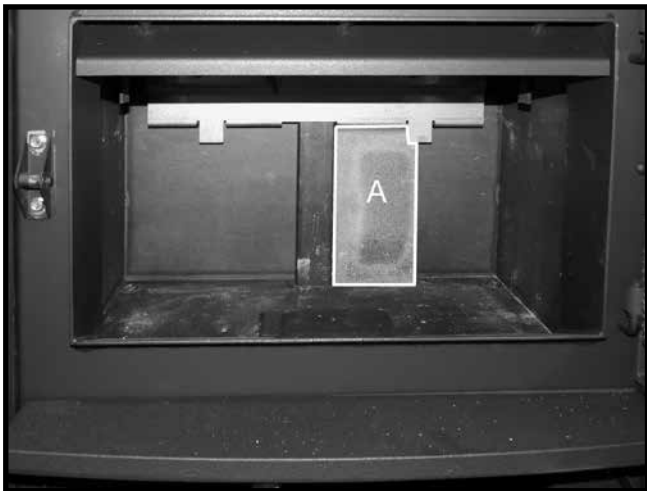

Figure 6. Installing the 1st of the rear wall bricks
1. Stand one "A" firebrick vertically behind the tab located on the brick rail. Slide the firebrick toward the center of the rear wall Figure 6.